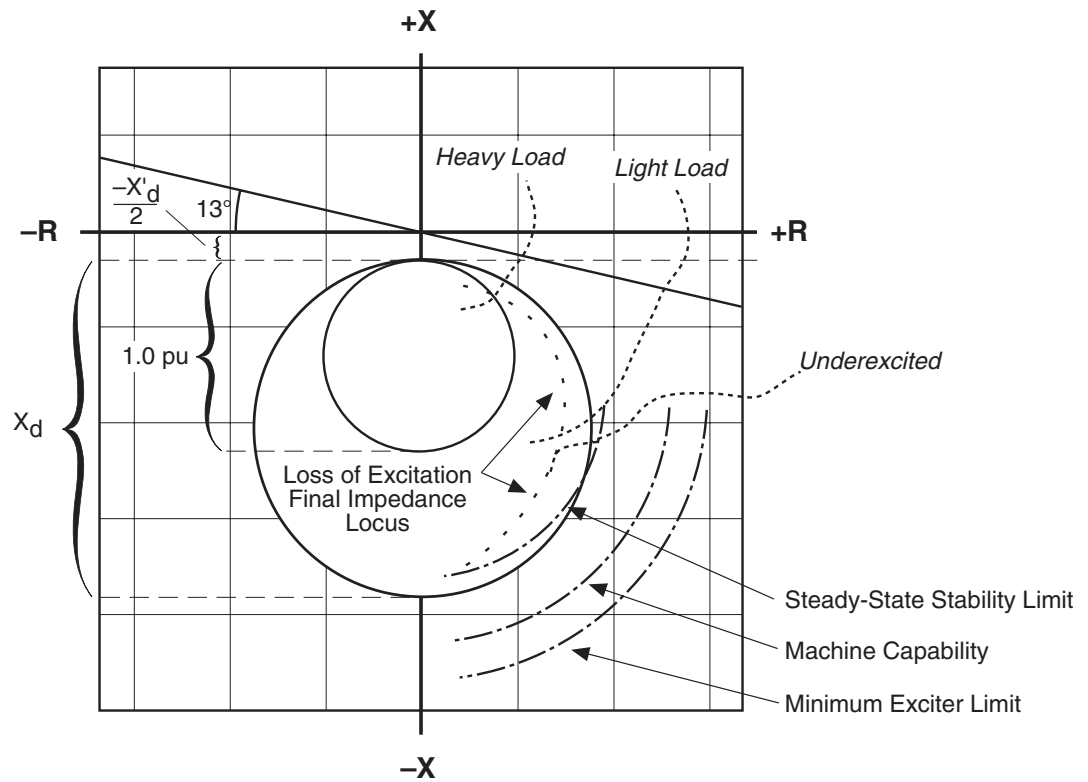
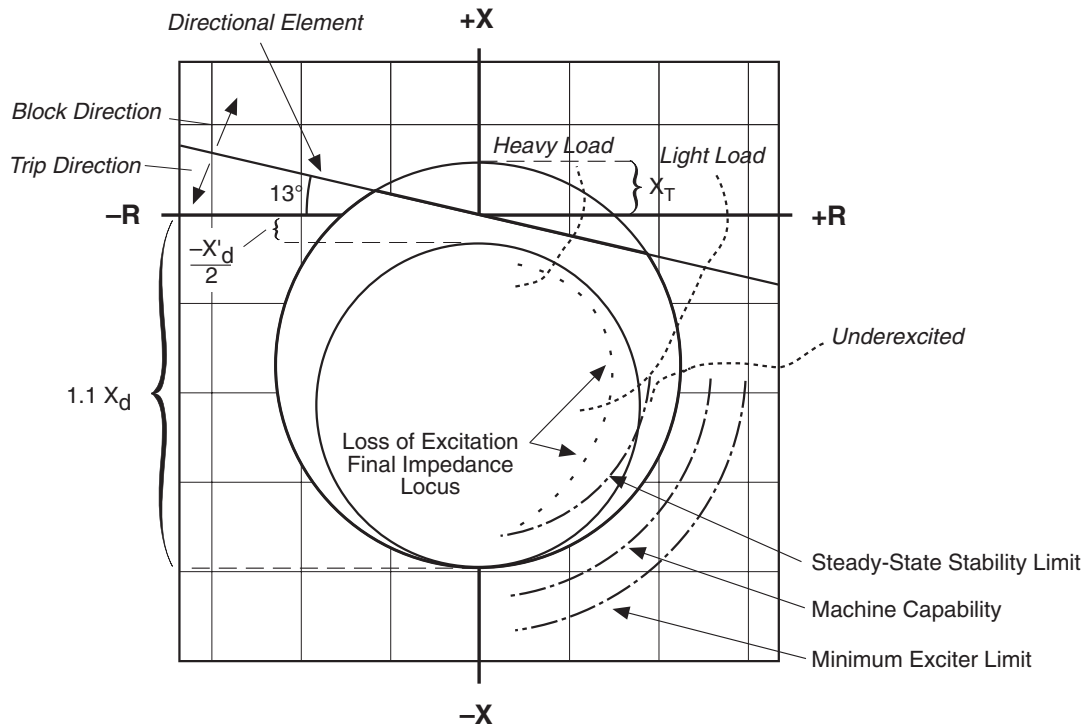

Figure 3-27 Loss-of-Field (40)—Protective Approach 1
Figure 3-28 Loss-of-Field (40)—Protective Approach 2
The settings of the offset mho elements should be such that the relay detects the loss-of-field condition for any loading while not mis-operating during power swings and fault conditions. Two approaches are widely used in the industry, both of which are supported by the M-3410 relay. Both approaches require knowledge of the reactances and other parameters of the generator. They are described in Figure 3-27, Loss-of-Field (40) – Protective Approach 1, and Figure 3-28, Loss-of-Field (40) – Protective Approach 2.
**The first approach** is shown in Figure 3-27. Here, both of the offset mho elements (#1 and #2) are set with an offset of  $-X'_d/2$ , where  $X'_d$  is the direct axis transient reactance (unsaturated) of the generator. The diameter of the smaller circle (#1) is set at 1.0 PU impedance on the machine base. This mho element detects loss-of-field from full load to about 30% load. A small time delay provides fast protection.
**The second approach** is shown in Figure 3-28. In this approach, one of the mho elements is set with an offset of  $-X'_d/2$ , a diameter of  $1.1 X_d - (X'_d/2)$ , and a time delay of 10 to 30 Cycles. The second element is set to coordinate with the generator minimum excitation limit and steady-state stability limit.